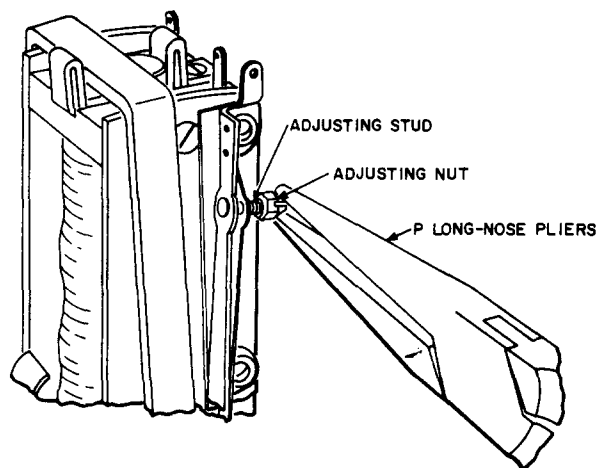

Fig. 6 — Method of Tightening Locknut
3.04 Adjusting Nut Tightness — 85F-Type Relay Only (Reqt 2.04): If the adjusting nut is too loose on the adjusting stud, turn the nut in a counterclockwise direction with the 403A or R-2262 wrench until the slotted portion extends beyond the stud. Then force the slotted portions of the nut closer together using the P long-nose pliers as shown in Fig. 6.